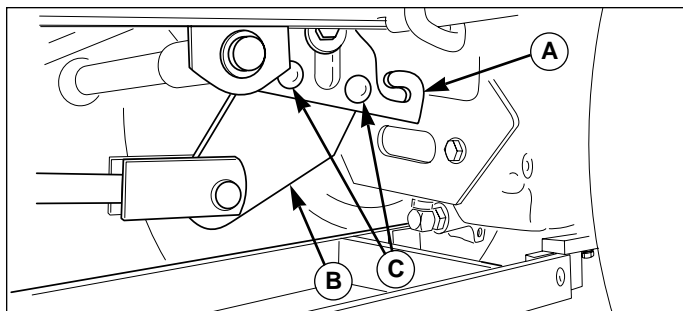

Figure 11. Attachment Lift Extension
1. Install the attachment lift extension (B, Figure 11) on the left attachment lift arm (A) using two 3/8-16 x 1" carriage bolts (C), lockwashers, and nuts as shown.